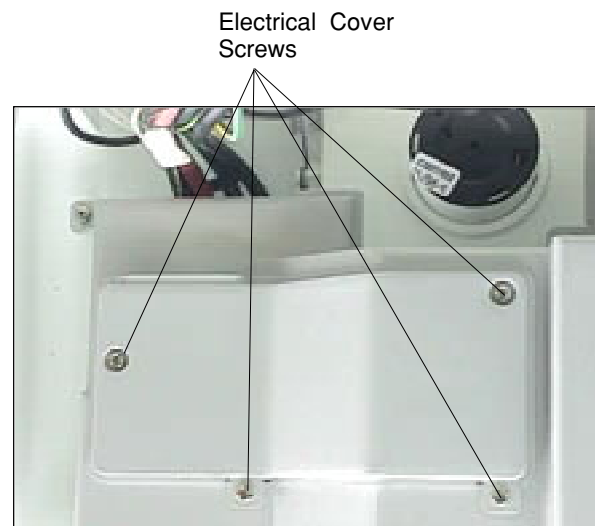

Fig. 18
Remove electrical cover by releasing four securing screws. Fig.18.
- 5.7.7** External controls may be wired from terminals TA to TA after removing the factory fitted link (see fig. 18 & pages 49 - 52 for further details). If a neutral is needed use the terminal marked N on the terminal strip.